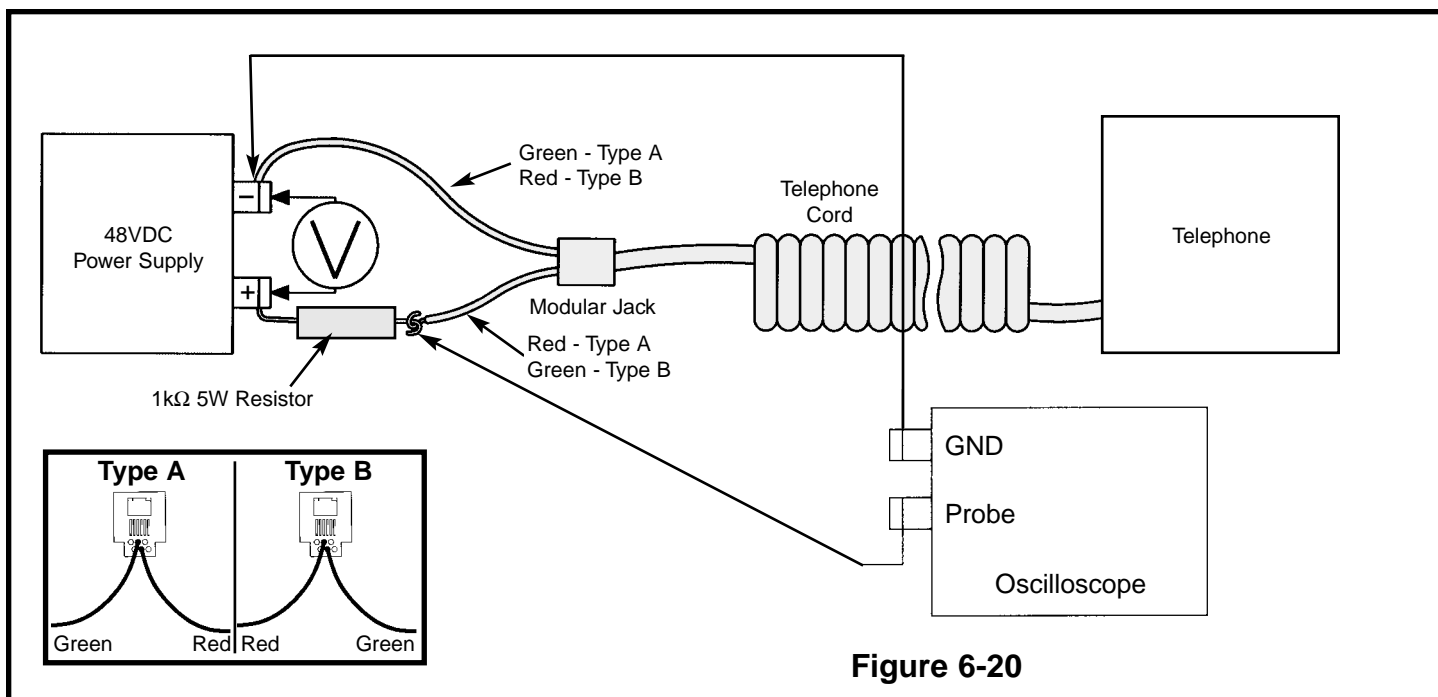

Figure 6-20
DC TEST - Refer to Figure 6-20 for the DC test configuration. The oscilloscope is not used for the DC test.
1. Turn the power supply OFF. Connect the 48VDC power supply, 1k Ω resistor, modular jack, and the telephone as shown in Figure 6-20.
3. Set the voltmeter to read 48VDC and connect it as shown in Figure 6-20.
VOICE TEST - Refer to Figure 6-20 for the voice test configuration.
1. Turn the power supply OFF. Connect the components, including the oscilloscope, as shown in the Figure 6-20.